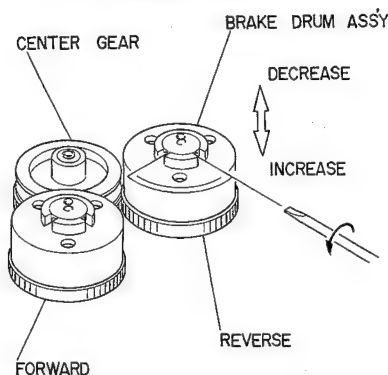

Fig. 5.1 Torque Adjustment
- (1) Remove cabinet assembly, flywheel holder, capstan belt and two sets of flywheel assembly (including washer, flange thrust stud and thrust spring) in that order. (When mounting the flywheel holder, use care to attach it in the correct direction to avoid the change of clearance between the flywheel holder and flywheel assembly.)
- (2) Turn on the power.
- (3) Load the torque gauge (DA09013A) in the cassette well assembly.
- (4) By touching the button of F.F. or rewind, measure torque for each mode. Adjustment should be so made that the torque may become in a range from 50 to 55 g-cm. Adjustment should be made on brake drum assembly of forward side and reverse side, respectively, to regulate the torque of F.F. and rewind modes. Refer to Figs. 5.1 and 5.2.